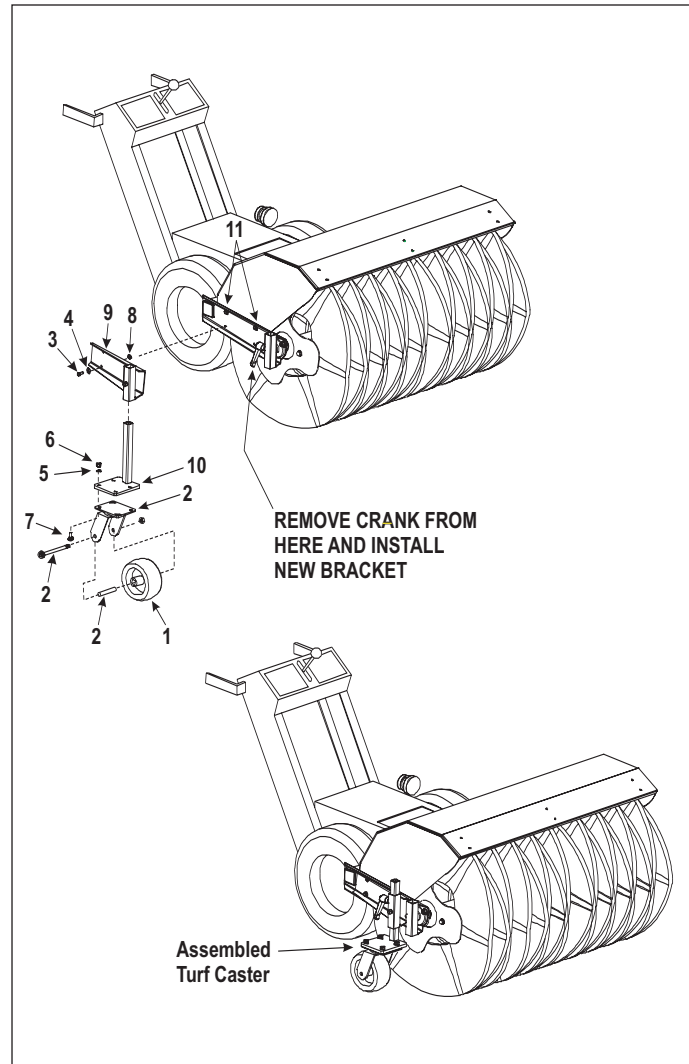

Figure 22. Turf Caster Assembly
2. Loosen the standard caster assembly by loosening and removing the locking lever. See Figure 22.